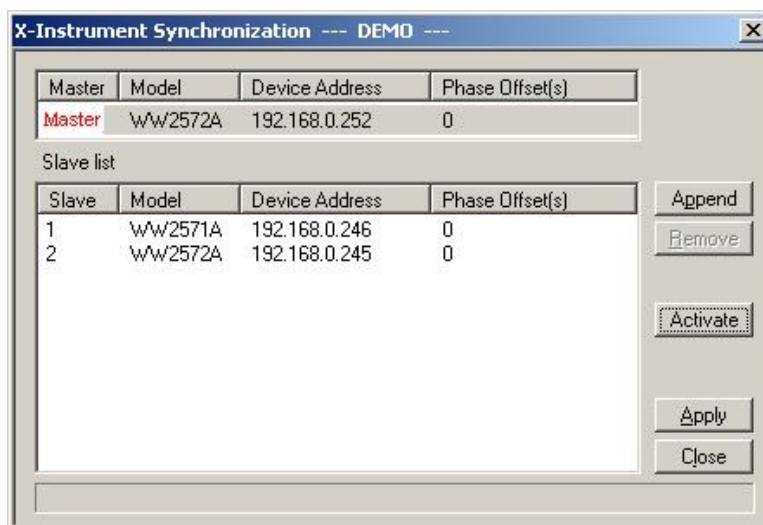

Figure 4-26, Multi-Instruments Synchronization Dialog Box Example
8. The last step is to activate the synchronization. This is done from the X-Instruments Synchronization dialog box, as shown in Figure 4-26. Click on Activate to start the synchronization, click on the same button to toggle synchronization off.